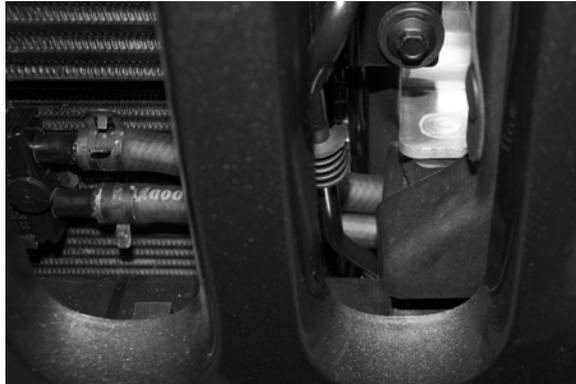

Figure 34
9. Install the cooling module back into the body. Notice the positioning of steering cooler lines shown in Figure 34..